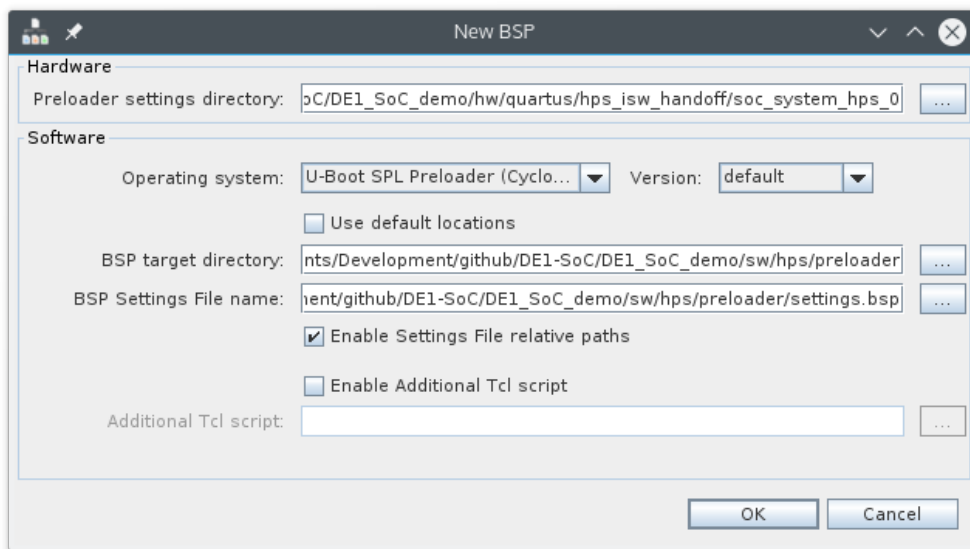

Figure 13-1. New BSP Dialog
- b. Disable the “Use default locations” checkbox and under the “BSP target directory”, select the “DE1\_SoC\_demo/sw/hps/preloader” directory. You should have something similar to Figure 13-1.